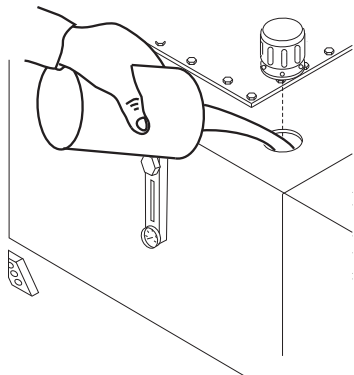

Figure 13. Hydraulic Oil Filler Hole
2. If the hydraulic oil level is low, remove the cap just above the oil level sight glass (Figure 13) and add the correct amount of hydraulic oil to bring the hydraulic oil level to a normal safe operating level. (Use Shell oil Tellus 68 or Mobil oil DFE26).